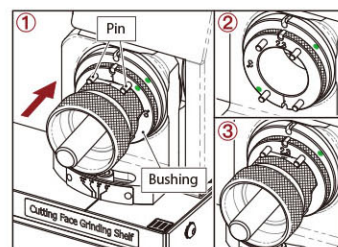

Fig. 8-3
3. 3 Flute Cutting Face Grinding (III) (Fig. 8-3)
- ① Insert the chuck set into the bushing on the Shelf (III), align Slot No.1 to the two pins where marked as No.1, push the chuck set gently until the grinding noise stops.
- ② Take the chuck set out, turn the bushing to No.(2 - 3), align No.(2 - 3) to the pin on the shelf, then insert it to the end.
- ③ Insert the chuck set into the bushing, align Slot No.2 to the two pins where marked as No.(2 - 3), push the chuck set gently until the grinding noise stops. Turn the chuck set to grind the Slot No.3 in the same way.